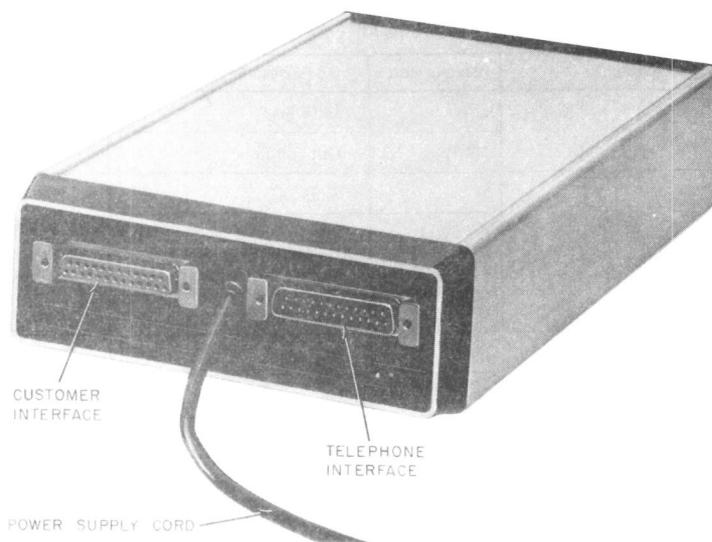

Fig. 4—Data Set 202S Rear View
2.06 The housing is an extruded aluminum shell measuring 5.6 cm high, 14.7 cm wide, and 27.4 cm deep (2.2 in. by 5.8 in. by 10.8 in.). The set weighs 1 kg (2.3 lb) [1.5 kg (3.2 lb) with KS-21239 transformer] (Fig. 4). The front cover is molded black plastic with seven translucent designations and a cutout for the test switches. The rear cover is also molded black plastic with a cutout for the two interface connectors and the power cord.